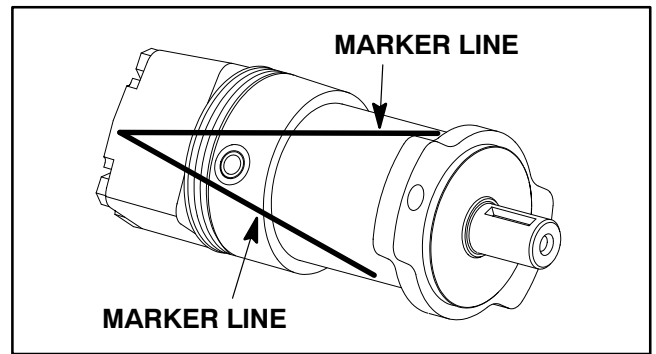

Figure 36
1. Thoroughly clean exterior of wheel motor. To aid in assembly, use a marker to draw a V shaped set of lines from end cover to housing (Fig. 36).
3. Loosen and remove four (4) screws (item 1).
12. Place thrust washer (item 16) against the shaft end and then install thrust bearing (item 15) onto washer.
13. Place a body seal (item 3) into the groove in the rear face of the housing.
14. Insert the drive link (item 12) into the shaft with the tapered end of the drive link facing up.
15. Using the marker lines placed before disassembly (Fig. 36) for orientation, place the wear plate (item 13) over the drive link and onto the housing.
16. Place a body seal (item 3) into the groove in the face of the rotor assembly (item 11).
20. Make sure that marker lines (Fig. 36) on installed components are aligned. Also, make sure that bolt holes through components are aligned. If parts need re-alignment, make sure that drive link end still protrudes above the surface of the manifold.
21. With the metal side of the commutator seal (item 8) facing up, use finger pressure to press the commutator seal down into the commutator. The seal should be flush with the commutator surface.
23. Install the final body seal (item 3) into the groove in the face of the end cover.
24. Install the piston spring (item 4), backup seal (item 5) and then O-ring seal (item 6) into the end cover.